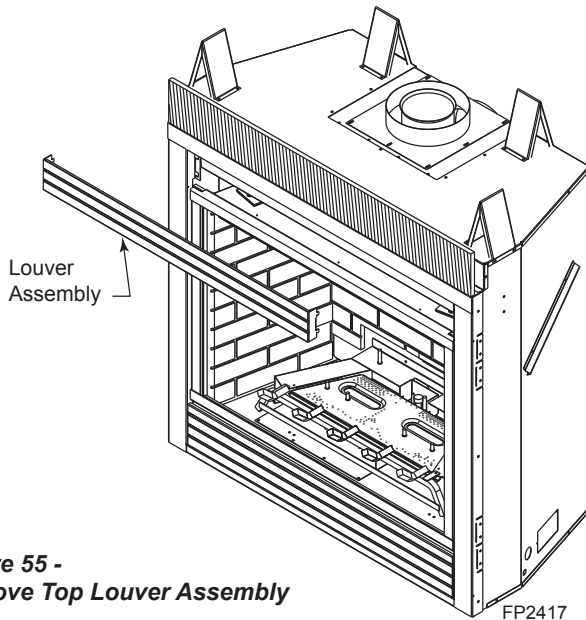

Figure 55 -
1. Unhook top louver assembly. Set aside. *Figure 55*